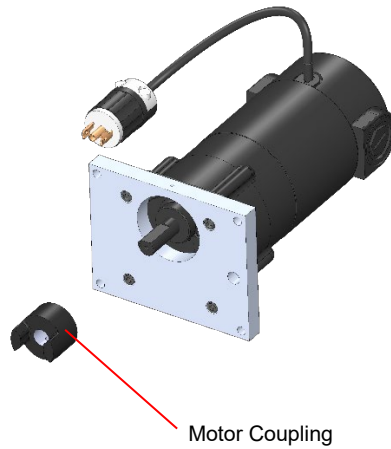

Figure 6. Remove Motor Coupling
5. Loosen 1/4-20 x 1/2" set screw from Motor Coupling, and slide Motor Coupling off motor shaft (Figure 6). Set aside for later use.